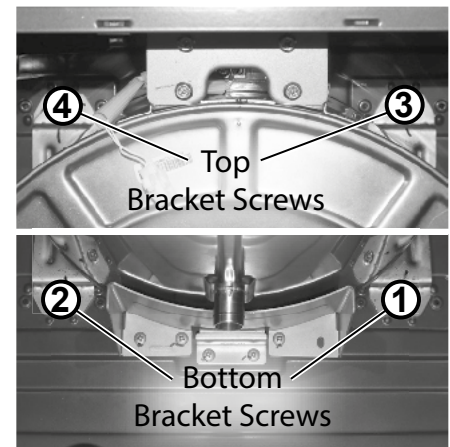

Figure 19 - Locate and remove heat exchanger bracket screws
- 40 Locate the two vertical (2) brackets and four (4) screws securing the heat exchanger to the backside of the water heater cabinet as shown in Figure 19.